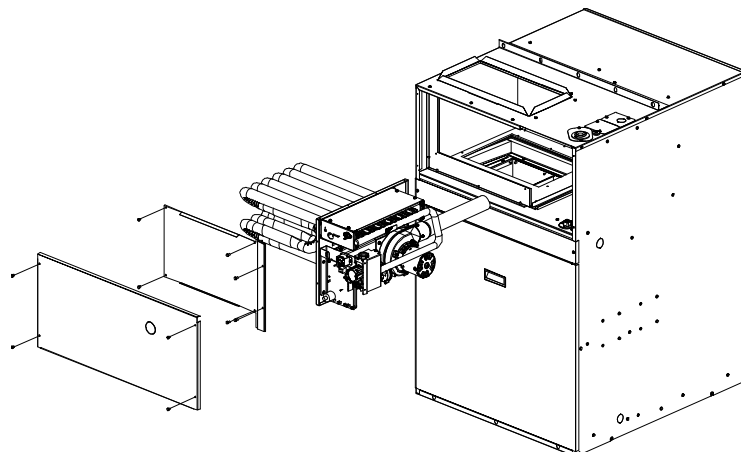

FIGURE 42 – Heating Access Panel Removal
- 2) Remove outer and inner heating access panels and the control access panel **FIGURE 42 – Heating Access Panel Removal**